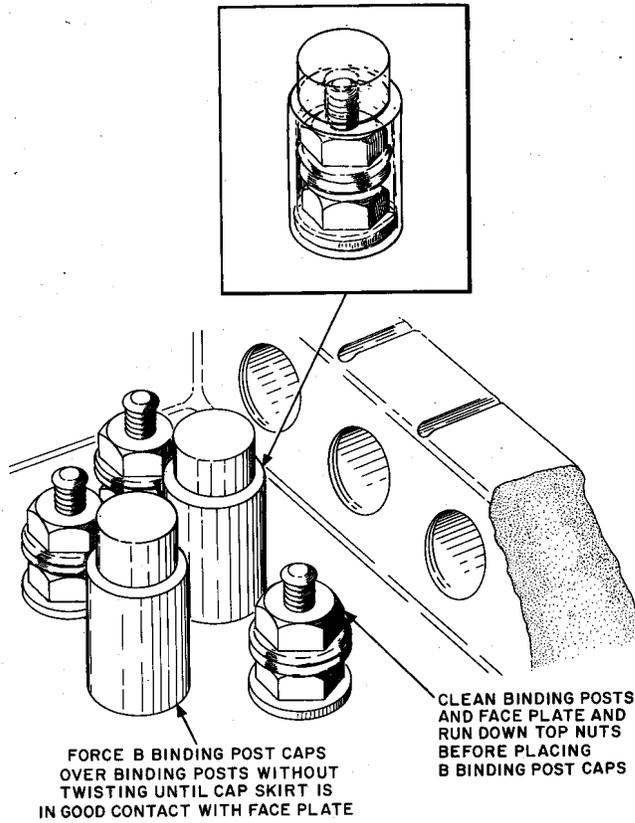

Fig. 30—Placing B Binding Post Caps
7.09 When installing the B binding post caps, first turn down the nut of the binding post fingertight. Force the cap over the binding post, without twisting, until the skirt of the cap is in good contact with the faceplate. If the cap is twisted while being forced over the binding post, the skirt of the cap may fold under instead of seating squarely on the faceplate as desired. Figure 30 shows a properly placed binding post cap.